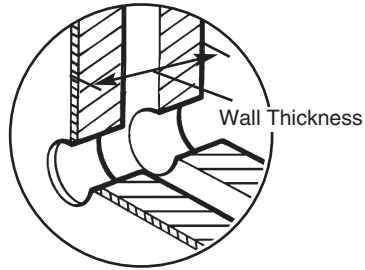

Fig. 69
3. Measure the wall thickness and from this dimension subtract 10mm (³/₈ in) (Fig. 69).